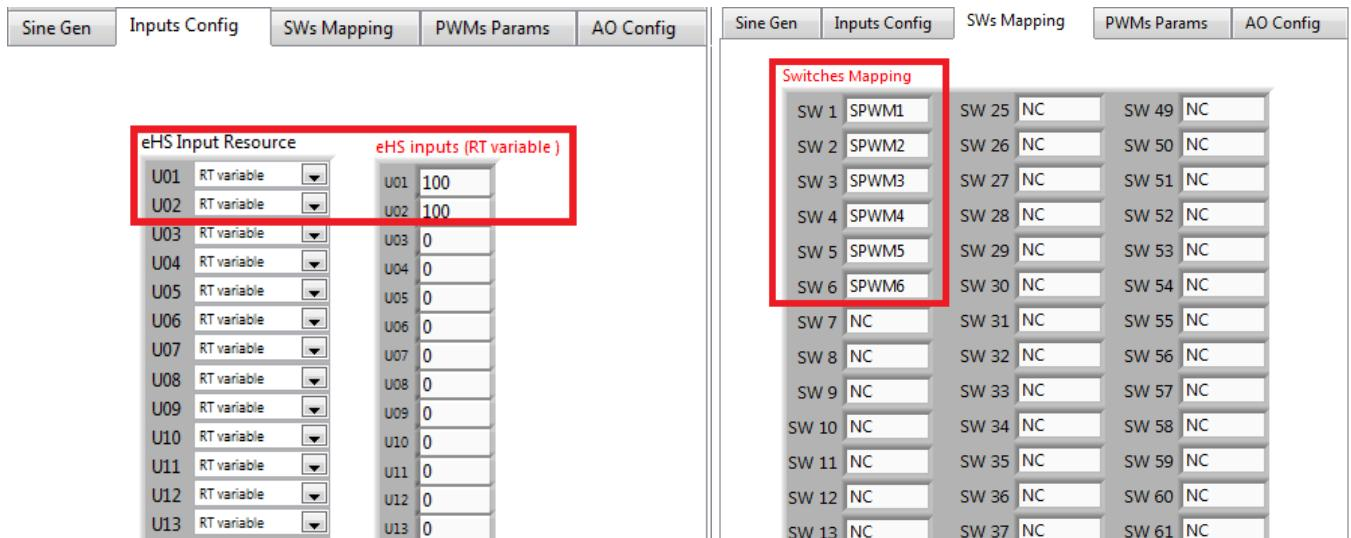

Figure 68: Inputs resources for 3 phase Inverter.
Step 5: From the **Inputs Config** tab select **RT variable** for **U01** and **U02** and then modify **eHS inputs U01** and **U02** to 100 volt. From the **SWs Mapping** tab, route the internal SPWM signals to SW01-SW06 (See Figure 68).